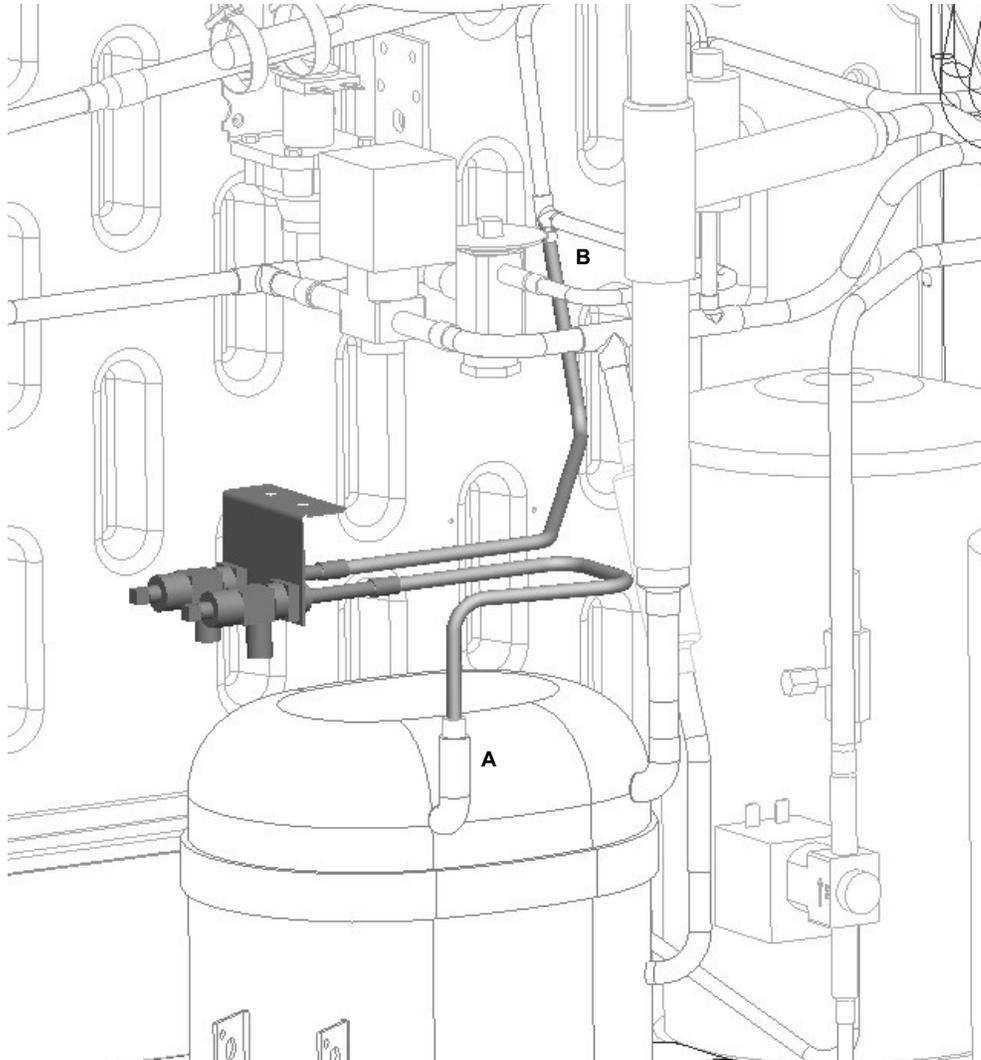

Figure 30.
32. Place the Service Valve Assembly in the unit. Connect the low side pressure tube to the compressor service port (A).
Connect the high side pressure tube to the Heat Exchange Suction Line just prior to the expansion valve (B) (Figure 30).